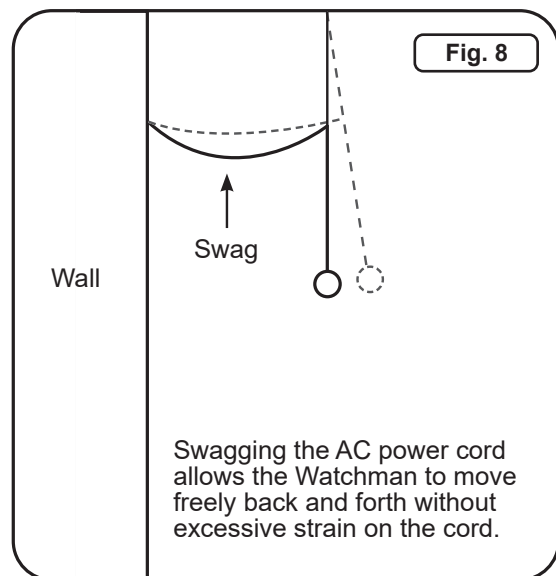

Fig. 8
2. Run the AC power cord up along the suspension cable and swag it over to an adjacent wall. Make sure there is sufficient cord slack to allow the Watchman to move laterally in the case of a collision event [Figure 8].